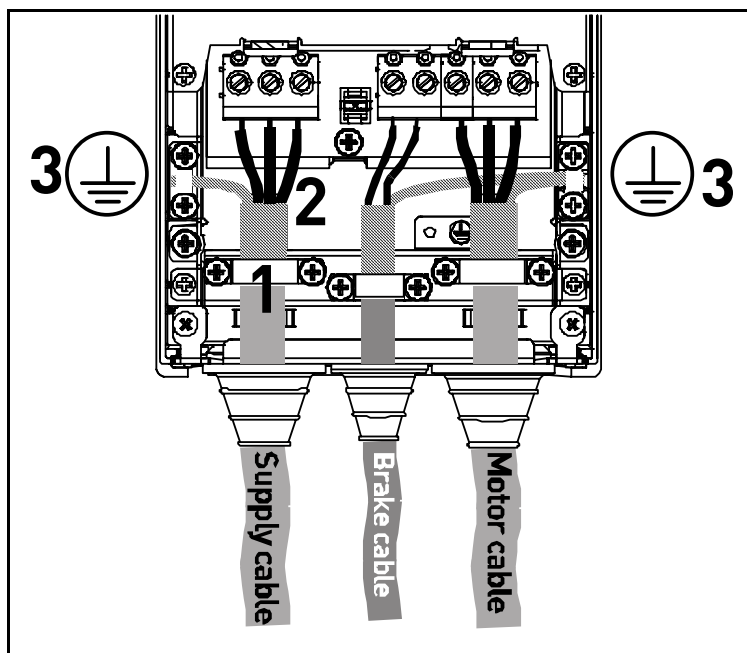

Figure 23.
Connect the stripped cables as shown in Figure 23.
- Expose the shield of all three cables in order to make a 360-degree connection with the cable clamp (1).
- Connect the (phase) conductors of the supply, brake and motor cables into their respective terminals (2).
- Form the rest of the cable shield of all three cables into “pigtailed” and make a grounding connection with a clamp as shown in Figure 23 (3).